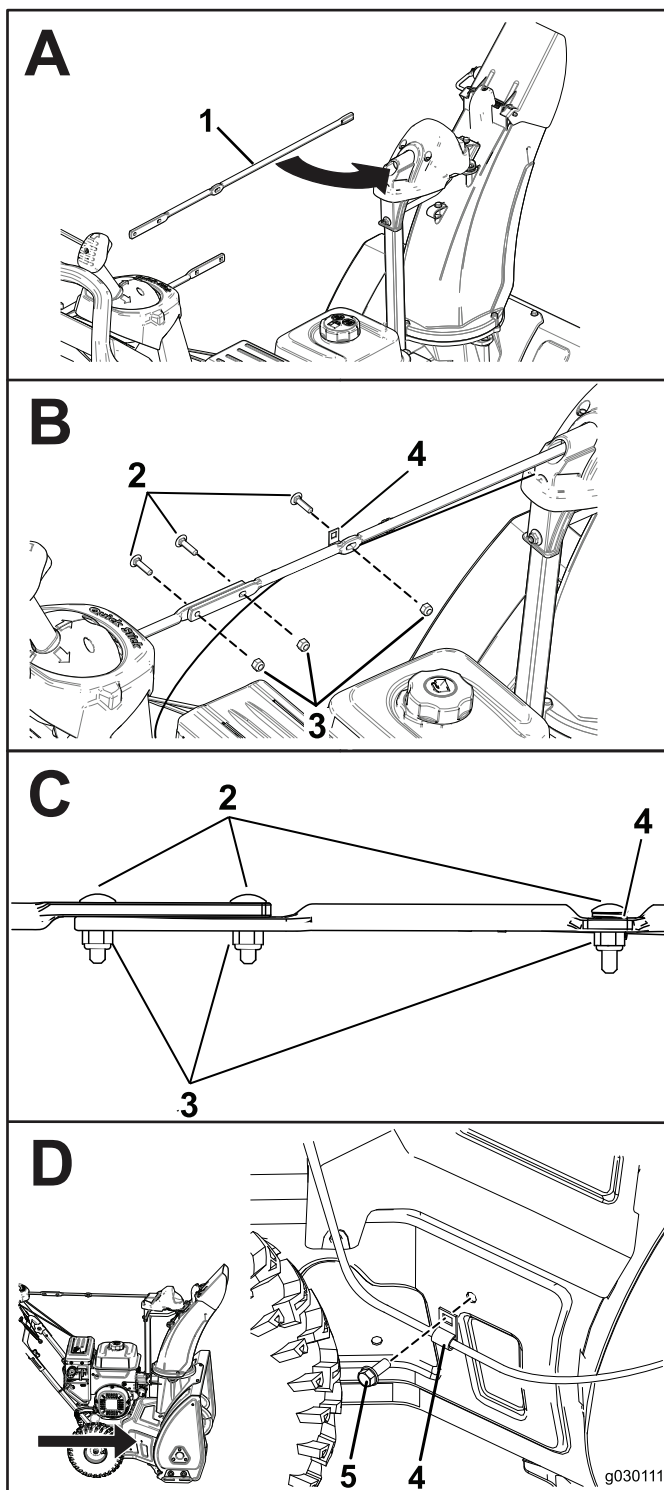

Figure 5
2. Assemble the chute rod and secure the cables (Figure 5).